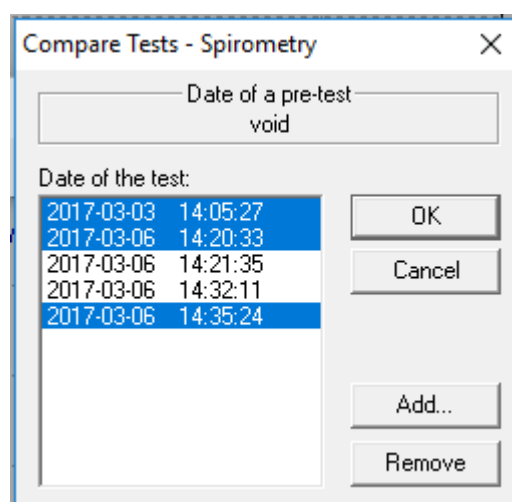

Fig. 18. Dialogue box *Compare tests* (Spirometry).
2. Select *Compare* (menu *File*). The dialogue box *Compare tests* (⇒Fig.18) appears on the screen. On the list *Test date* an item with the test date that was open in item 1 will be highlighted.